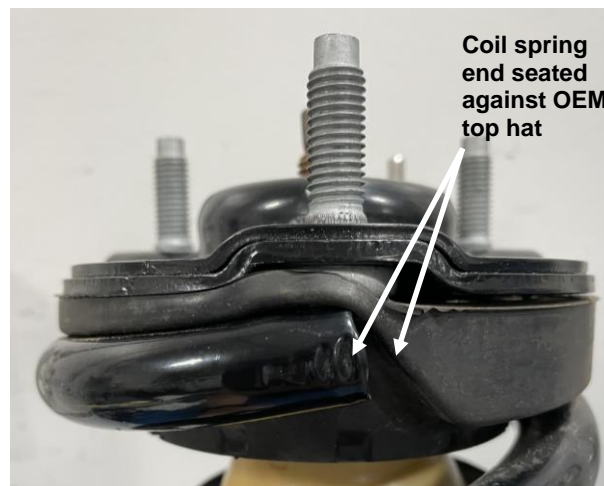

Figure 3: Coil spring clocking
- H. Rotate the coil spring until the end of the top coil is seated into the OEM top mount spring isolator as shown in Figure 3.